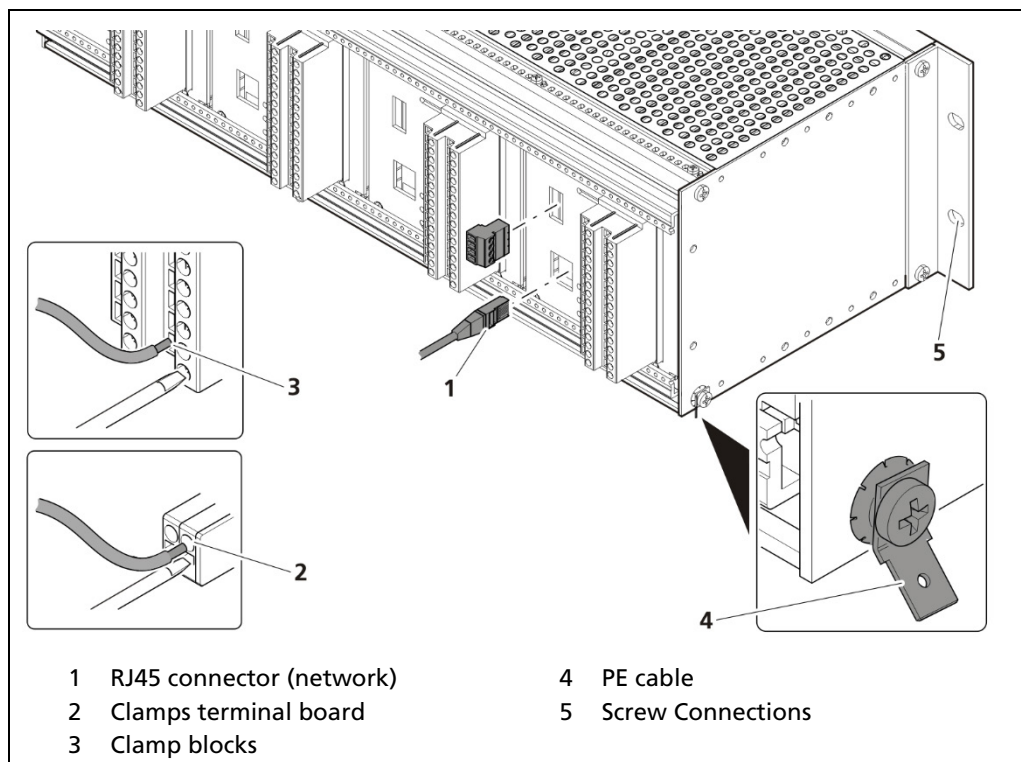

Fig. 150 Decommissioning 19" subrack
2. Remove the network plug (Fig. 150, item 1).
3. Remove all lines from the terminal board (Fig. 150, item 2) or the clamp blocks (Fig. 150, item 3).
4. Remove the PE cable (Fig. 150, item 4).
5. Remove the connections (Fig. 150, item 5) and pull the subrack from the 19" rack.